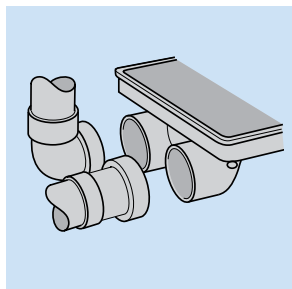

Fig. 17
**To connect waste pipes to back inlet bosses:** remove rubber plug from side bosses and solvent-weld appropriate fitting (Fig. 17).